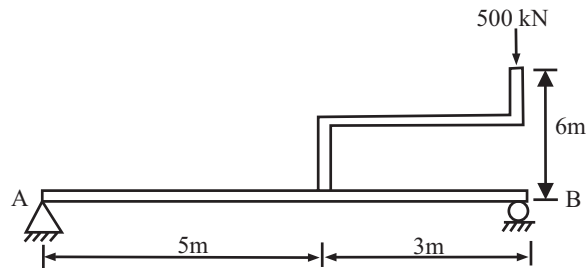

Fig 6
- Q.6.** Draw the shear force diagrams for the beam AB (Fig.6) loaded through the attached strut.